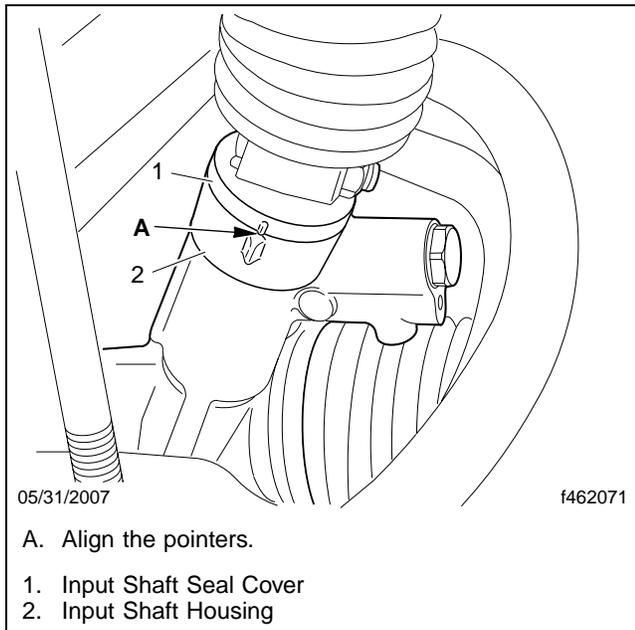

Fig. 11, Pointer Alignment
- 40.2 Align the pointers on the input shaft seal cover and the input shaft housing. See **Fig. 11**.